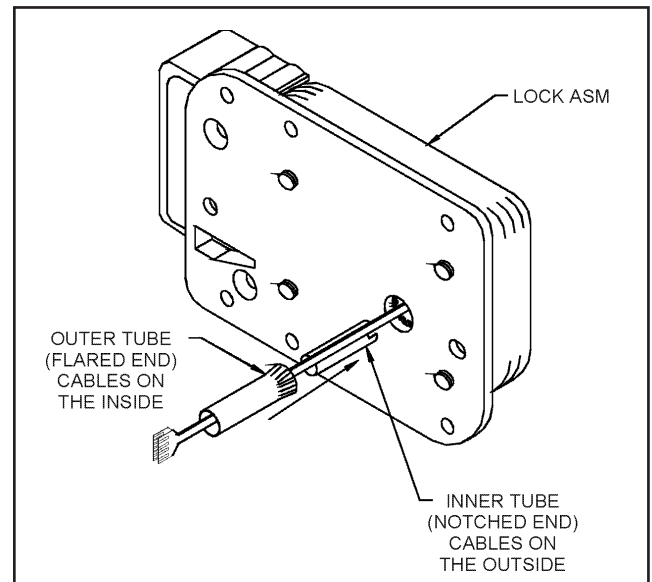

Figure 6 - Tube-Cable Assembly Relationships
3. Refer to Figure 6. Feed the cables through the outer, larger, tube starting from the flared end of the tube. Seat the tube into position on the tube retainer on the back of the lock case assembly. Be careful to keep the cables pulled taut while seating the tube to avoid pinching damage to them.